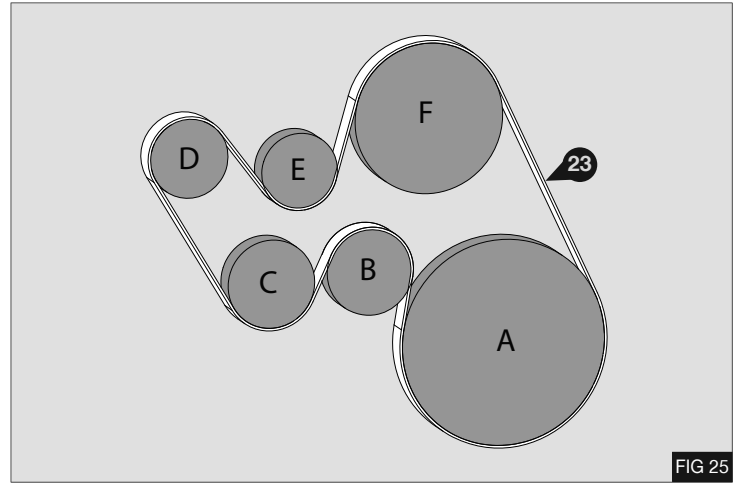

FIG 25
4. Using the method detailed earlier lock the engine and torque bolt (15) to 350Nm / 258Lbft
5. Once crank bolt (15) is correctly tightened, re-fit the starter motor (V) using the original fasteners into their original holes and torque to 25Nm 18Lbft
- Fit the supplied drive belt (23), and remove locking pin from auto tensioner (N) - Fig 25